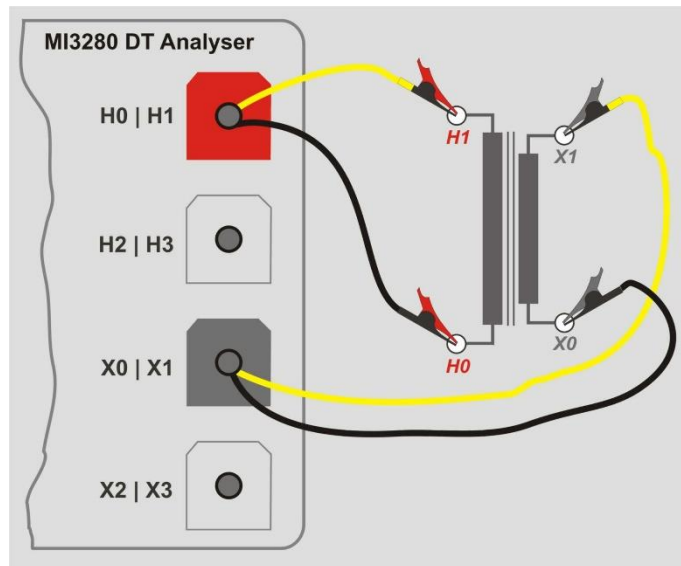

Figure 11.7: Single-phase VT/PT transformer turn ratio measurement connection
To measure single-phase voltage/power transformer (VT/PT) you need to connect H1|H0 connector (red terminal: black and yellow wires) and X1|X0 connector (grey terminal; black and yellow wires) to appropriate MI 3280 socket as shown in Figure 11.7.
- Connect VT/PT transformer like shown in *Figure 11.7*.